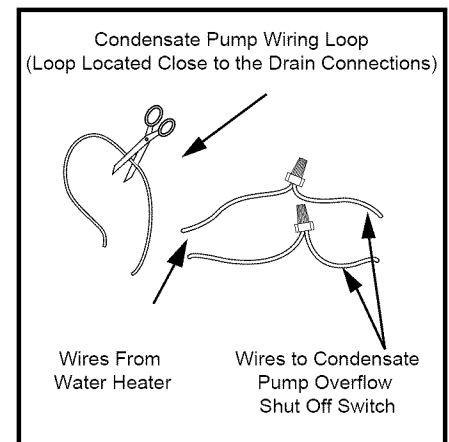

Figure 14 - Wiring Loop for connection of Condensate Pump.
- 1 Locate the wire loop inside the condensate drain access compartment by removing the 4 screws attaching the condensate drain access cover to the unit. Cut the loop and strip insulation off the 2 ends (Figures 14 & 15 on page 13 & 14).